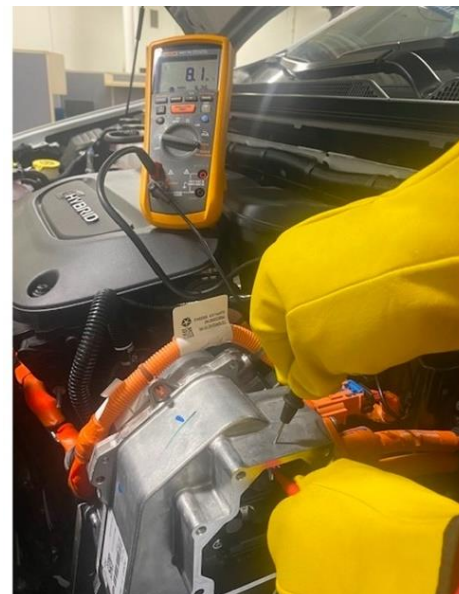

Figure 64 – Isolation Test
- b. Connect the Red multi-meter on the (H301) High Voltage DC 300V (-) terminal inside the PIM. Record the reading (Figure 64).